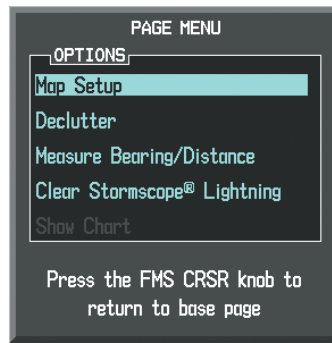

Figure 6-38 Navigation Map Page Menu
- 2) With 'Map Setup' selected (Figure 6-38), press the **ENT** Key.